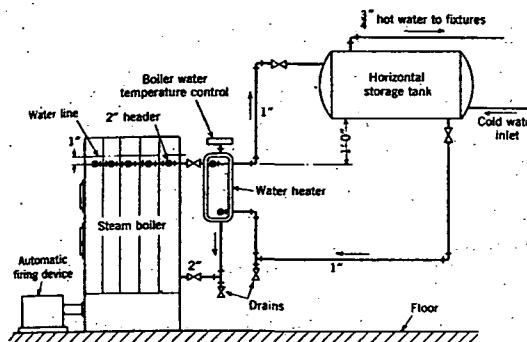

FIG. 9. INDIRECT WATER HEATER MOUNTED ON SIDE OF BOILER
3. Indirect water heater, mounted on side of boiler below water line. (Fig. 9).